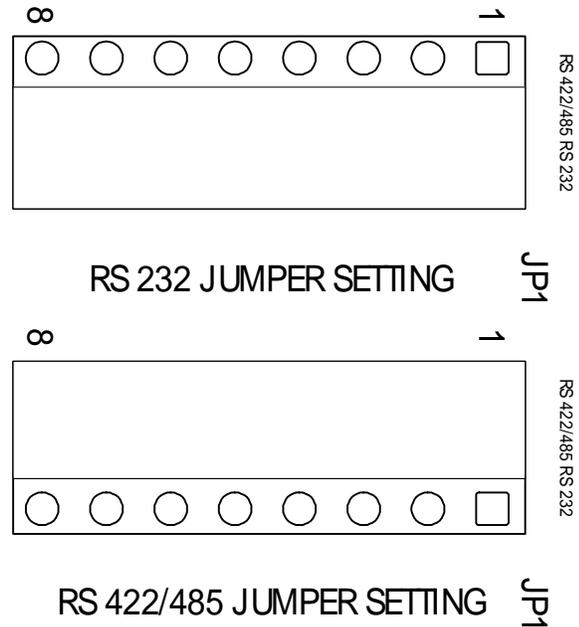

FIG. 4-3 RS-232 (DEFAULT), S422/485 JUMPER SETTINGS
- Step 5. The factory default position is for the RS-232 setting. (See Fig. 4-3) The dip switches do not function when in the RS-232 configuration.
Step 6. To select the RS 422/485 ports, move the jumper to the RS 422/485 position. (See Fig. 4-3)